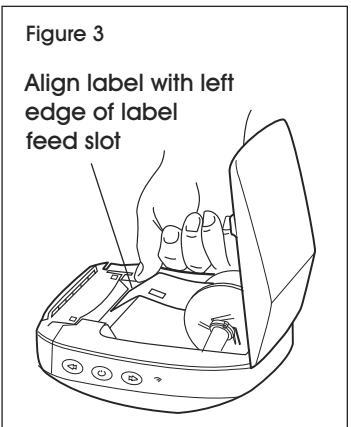

Figure 3
7. Align left edge of label with left edge of label exit slot and insert label into slot. (See Figure 3)